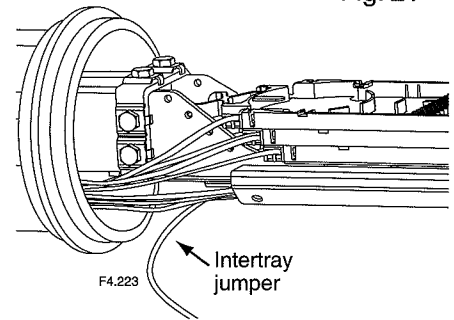

Fig. 21
4. Guide the jumper underneath the tray mounting bracket to the appropriate destination tray and position it in the tray. (Figure 21)